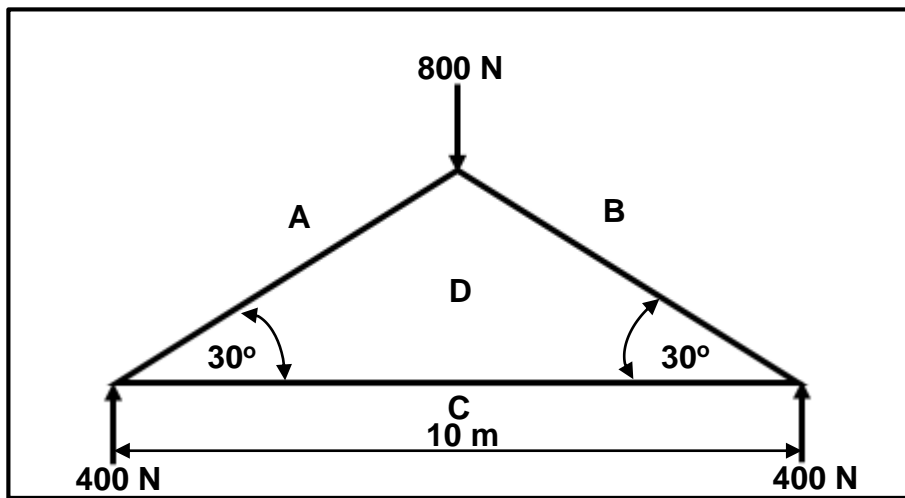

FIGURE 7.3
- 7.3 FIGURE 7.3 below shows a steel framework. Answer the questions that follow.